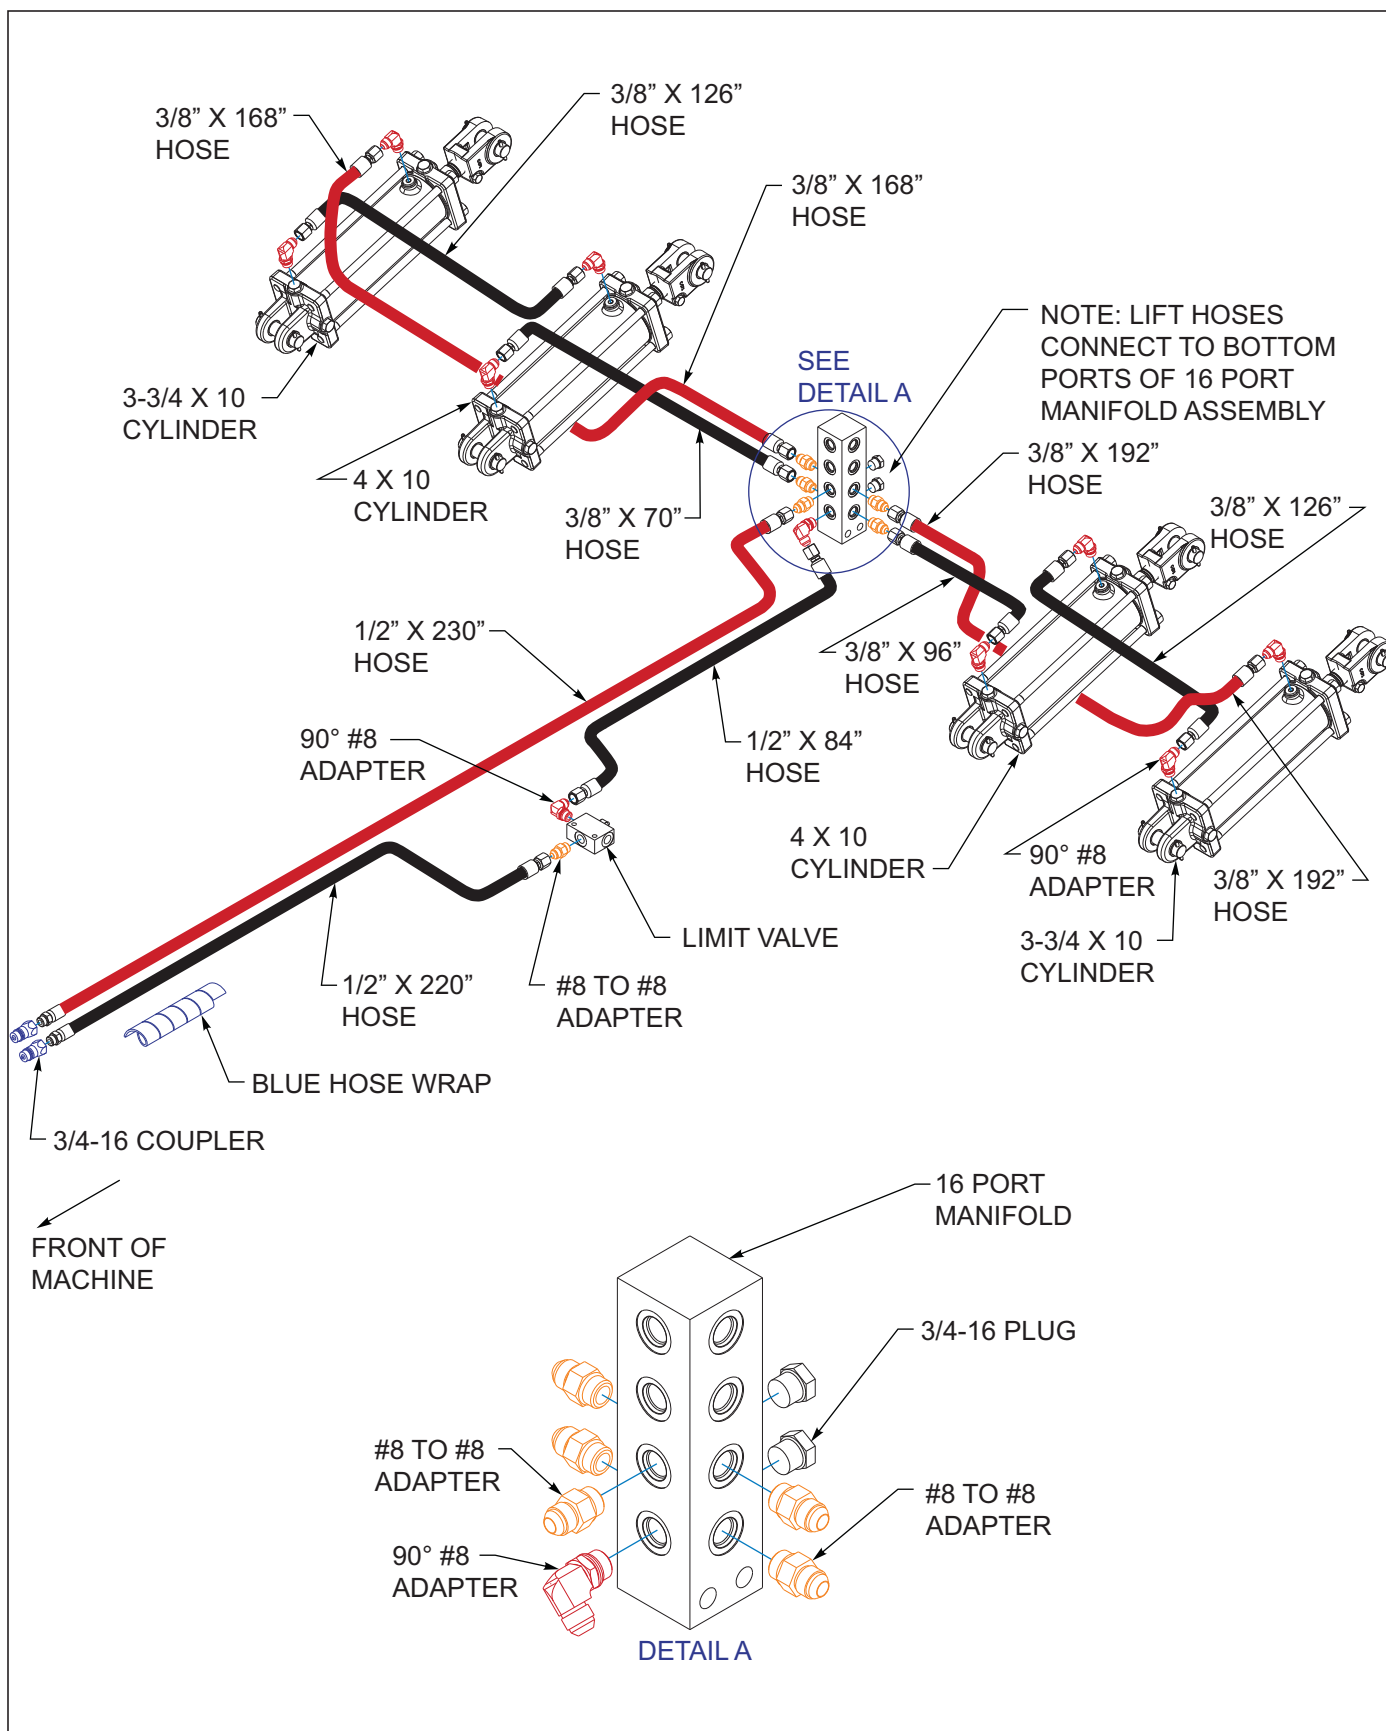

Figure 3-40: Hydraulic Lift Installation 8530-33'-35'
1. Attach the finisholl to a tractor sized for field operation and connect the lift cylinder hoses. Charge the lift system with hydraulic oil as described in Figures 3-40 and “Hydraulic Lift System” on page 4-2.